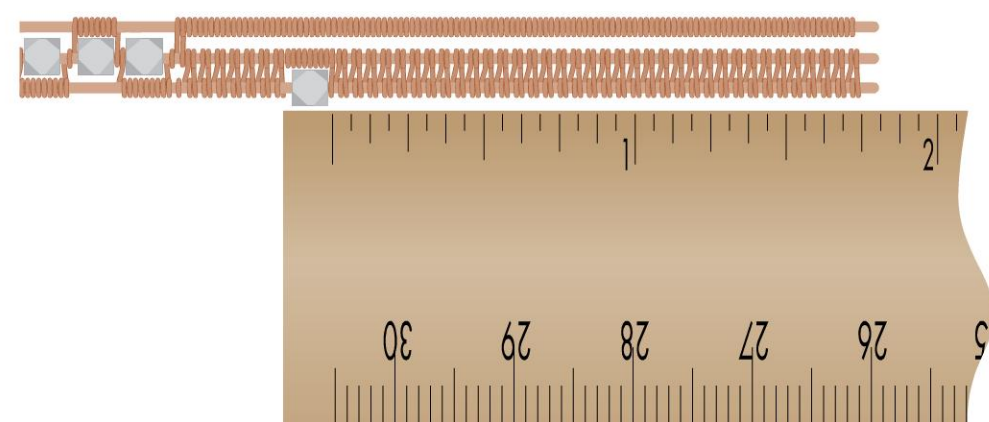

figure 4
- 16 Cut 3" (7.6 cm) of 16-gauge wire to use as a mandrel. Cut  $2\frac{1}{2}$ ' (76.2 cm) of 26-gauge wire. Coil  $1\frac{3}{4}$ " (4.5 cm), remove from mandrel and trim wire tails, then slide the coil onto Frame Wire 3 (Figure 4).